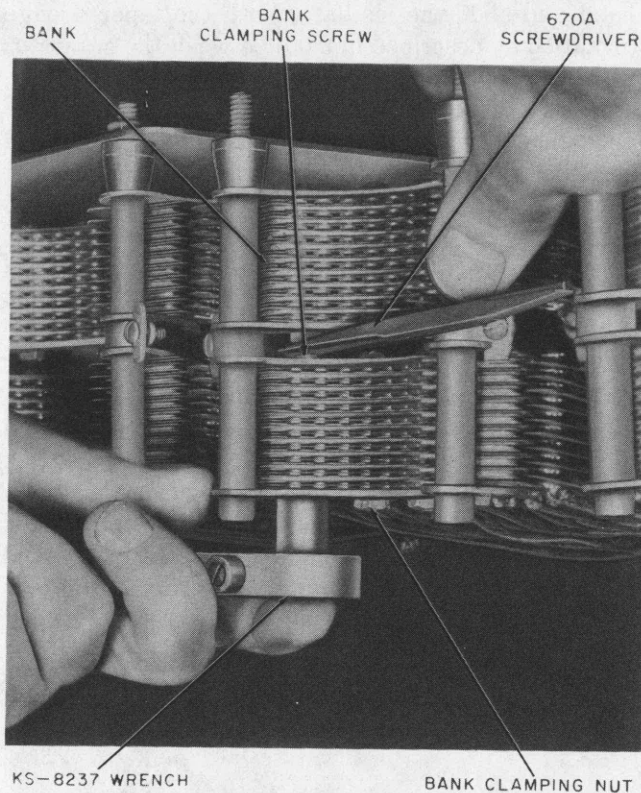

Fig. 6—Method of Tightening Bank Clamping Screws
3.12 If the bank clamping screws are not staked or are only lightly staked, hold each screw securely with the 670A screwdriver and remove its clamping nut with the 418A wrench. If the clamping screws are heavily staked, tighten each clamping nut with the KS-8237 wrench as shown in Fig. 6. Hold the screwdriver until the nut grabs, and then allow the screwdriver to move with the screw until it rests against the bank rod. After the nut has been tightened, further tighten the nut until the screw is twisted off. Repeat this operation on each clamping screw and remove the bottom bank clamping plate. During these operations exercise extreme caution to prevent damage to the equipment due to accidental slippage of the tools.